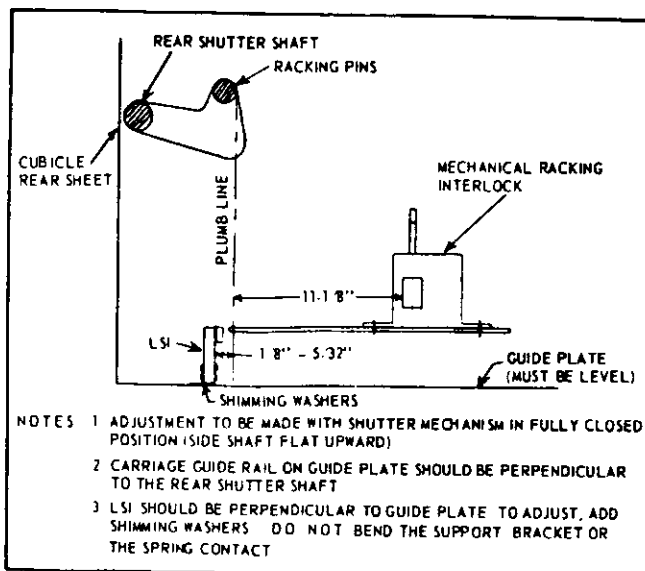
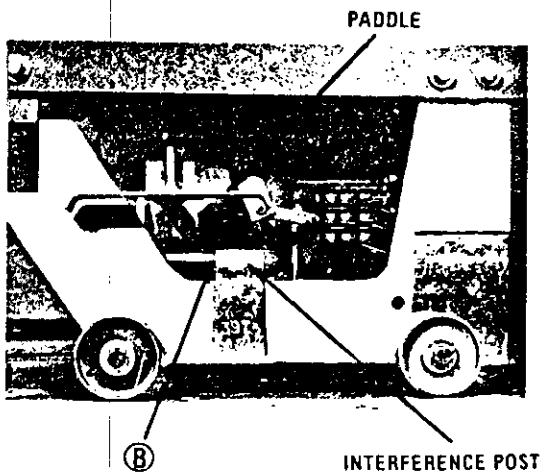

Fig. 14. - Line switch interlock and racking interlock dimensions.
Fig. 28 - Interference post on carriage.
At this point, check the guide plate (support plate). This plate, the LSI and the interlocks have been factory adjusted. Check dimensions as shown in Fig. 14. (See page 11 for adjustment.)
Check dimensions as shown in Fig. 14.
3. Use the dimensions shown in Fig. 14. The plunger must clear the interference post on the carriage by 1/4" maximum at B when the carriage is racked in. (See Fig. 28)